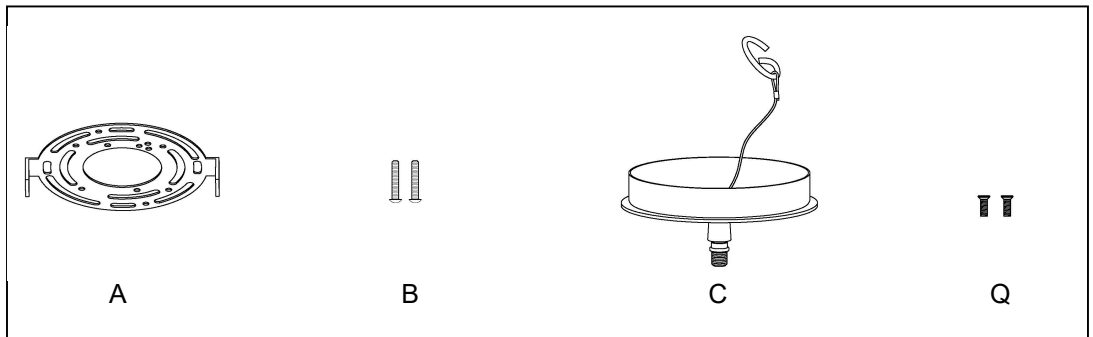

**Fig.3**
### ASSEMBLING THE FIXTURE (Fig.1&Fig.3)
3. Adjust rods (H) to proper position and hang on hooks (I) on the fixture ring.
4. Pull out excess wires (O) from coupling (G) and place cap (F) over coupling (G) on the fixture.
5. Determine the desired hanging height, carefully feed wires through each rod (E1,E2) and assemble rods (E1,E2), one end of the assembled rods (E1,E2) threads on coupling (G) another end threads on swivel (D).
6. Attach mounting plate (A) to the junction box (not included) with junction box screws (B) (Size: #8-32N\*L1"). The side of the mounting plate (A) with "GND" marked on it and two convex points must face out.
7. Support cable is provided to support weight of fixture while wiring. Align fixture to mounting plate (A) and attach hook (P) on the end of support cable into a slot located on mounting plate (A). Carefully allow support cable to support weight of fixture while wiring (Fig.1 Fig3).